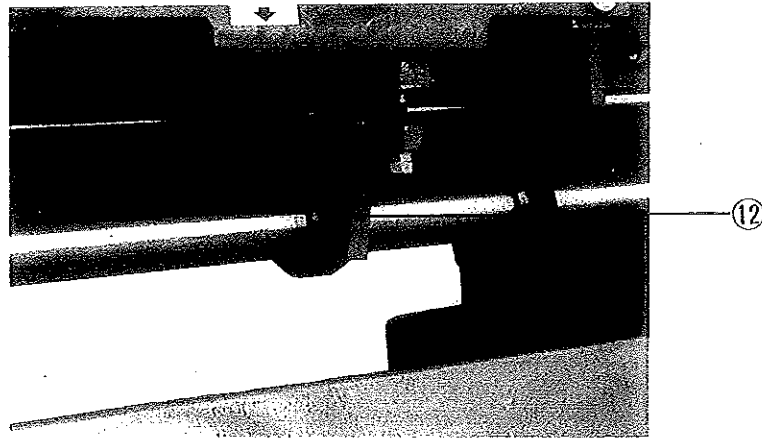

Fig. 4-10
The apron is equipped with an automatic stop device. To set this stop, loosen the setscrew on the top of the dog #12 fig. 4-10 and move to the desired location. with the dog in place and the top tip facing out tighten the setscrew. when the dog comes in contact with the trip plunger (#15 of item 1-1 located at the bottom of the apron) the carriage will stop always test the stop before you start machining to avoid damage to the lathe and or workpiece.